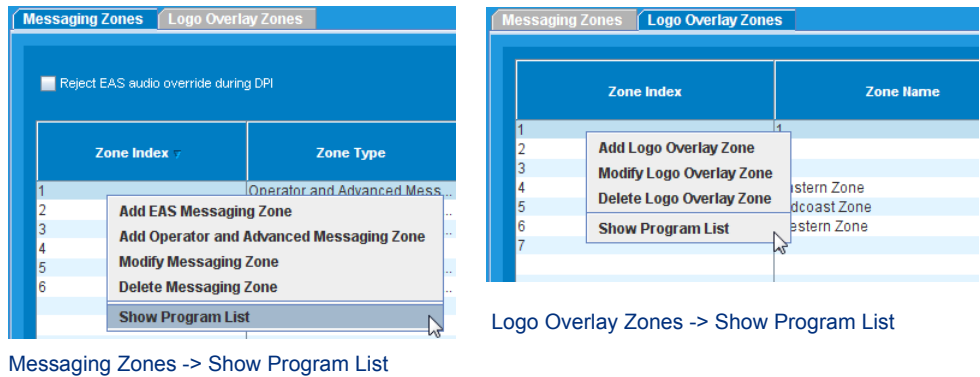

Figure 76. Show Program List Pop-up windows
- 1. From the **Configuration -> Messaging System -> Messaging Zones** or **Logo Overlay Zones** menu, highlight the desired zone, right-click, and select **Show Program List** from the pop-up window (Figure 76).